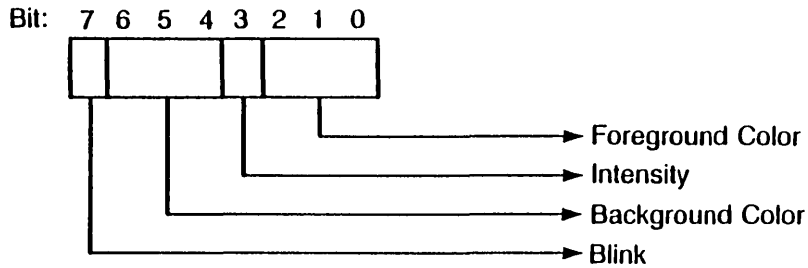

Figure 3-2. Attribute Plane Byte Format
- **Attribute Plane (plane 1):** Each byte defines the foreground color, background color, and color intensity and contains a blink flag for the corresponding character cell. The attribute plane byte is used as shown in Figure 3-2.